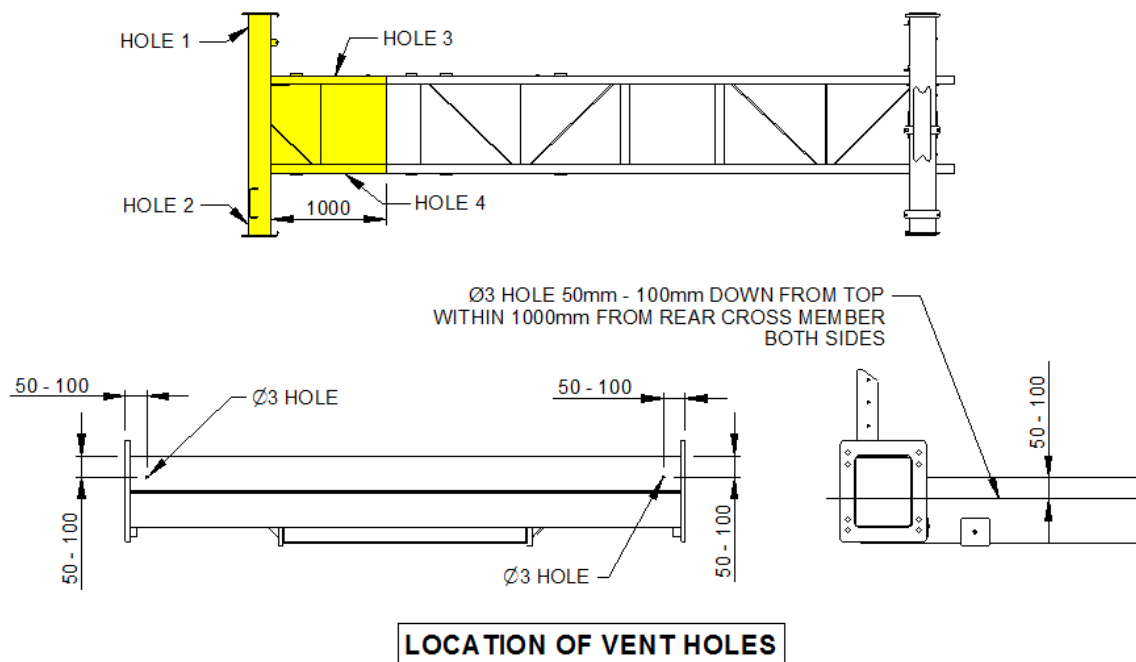
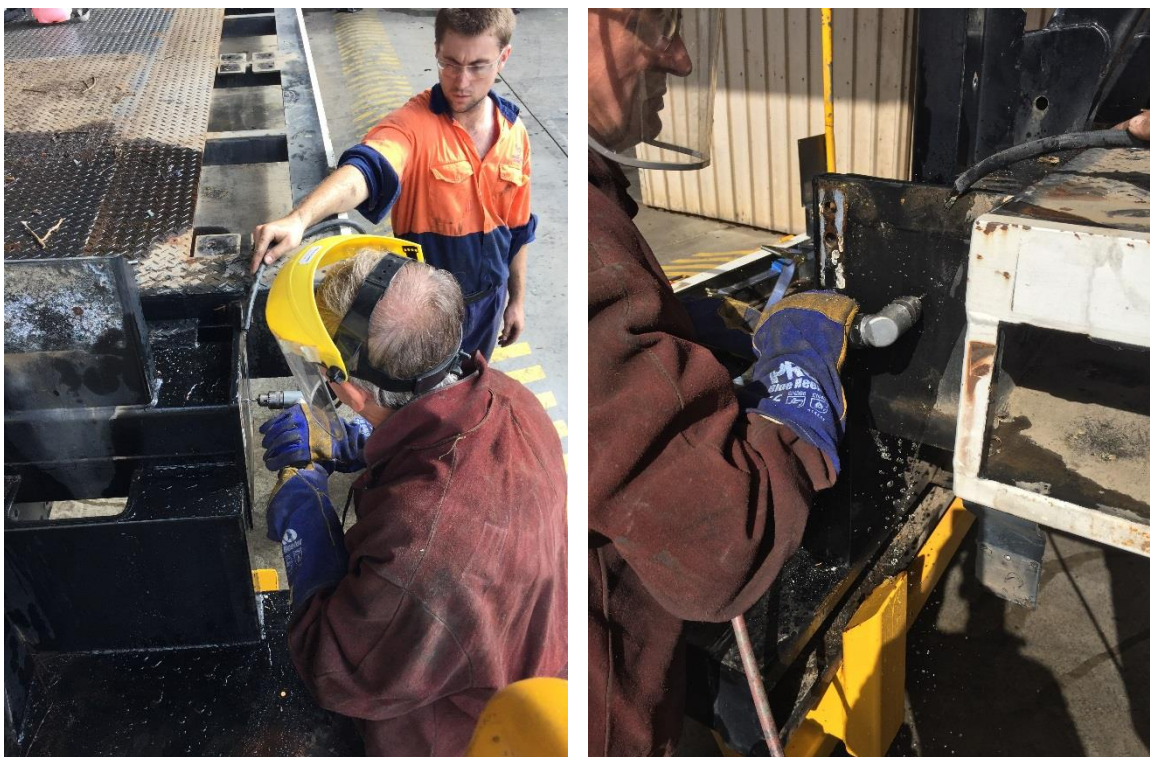

Figure 1 – Subframe drawing showing location of vent holes
Figure 2 – Vent holes being drilled in end of rear jackleg tube
Please refer to Figure 1 which shows the bare subframe structure (cabinets, boom etc not shown for clarity). The ballast is located inside the sections highlighted in yellow on Figure 1. The cross member to be drilled is located at the rear of the truck adjacent to the basket rest and runs between the two rear jacklegs. There is a tank built into the subframe directly in front of this cross member. These sections are separate and have been seal-welded when manufactured.
- Two holes are to be drilled in the rear cross member located between the 2 rear jack legs. The location of the holes should be between 50mm – 100mm down from the top of the cross member and between 50mm – 100mm in from each side flange that the rear jacklegs are bolted to. Note that one hole is to be drilled at each end of the cross tube. See LHS of Figure 1 above.
- Two holes are also to be drilled in both sides of the subframe. The holes should be located between 50mm – 100m down from the top of the main section and anywhere within the 1000mm of the rear cross member. One hole is to be drilled in each side of the subframe. In order to access the subframe for drilling purposes, it may be necessary to remove the rear wheels. See RHS of Figure 1 above.
- c. Use a 3mm drill bit within the pneumatic/hydraulic drill to drill through on the mark. Care should be taken when the drill punches through into the cavity behind as there is a possibility that flammable gases may be present which could ignite during the drilling process. Ensure to wear all recommended PPE and have a fire extinguisher on standby. See Figure 2 below.
Please note the example given in Figure 2 below shows drilling into the end of the rear jackleg cross member; this is done during rebuilds as the machine is disassembled. This location is not referenced in Figure 1 as is it inaccessible for in-service EWPs.